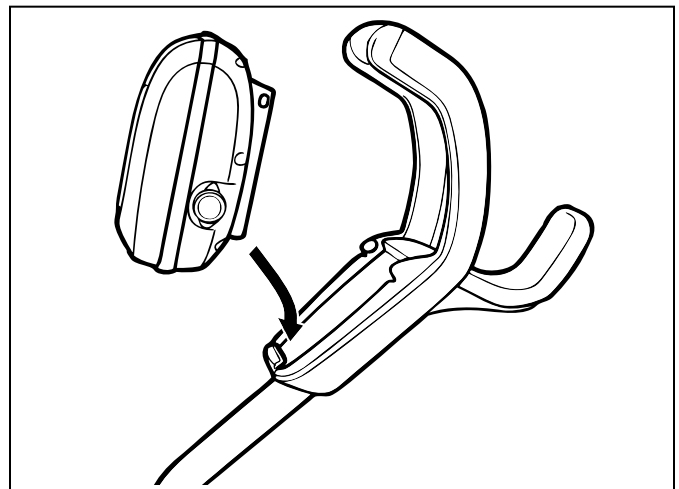

Figure 10. Align Control Unit with Caddy Hook
- Align the bottom of the control unit with the notch at bottom of the control unit hook on the caddy (Figure 10).